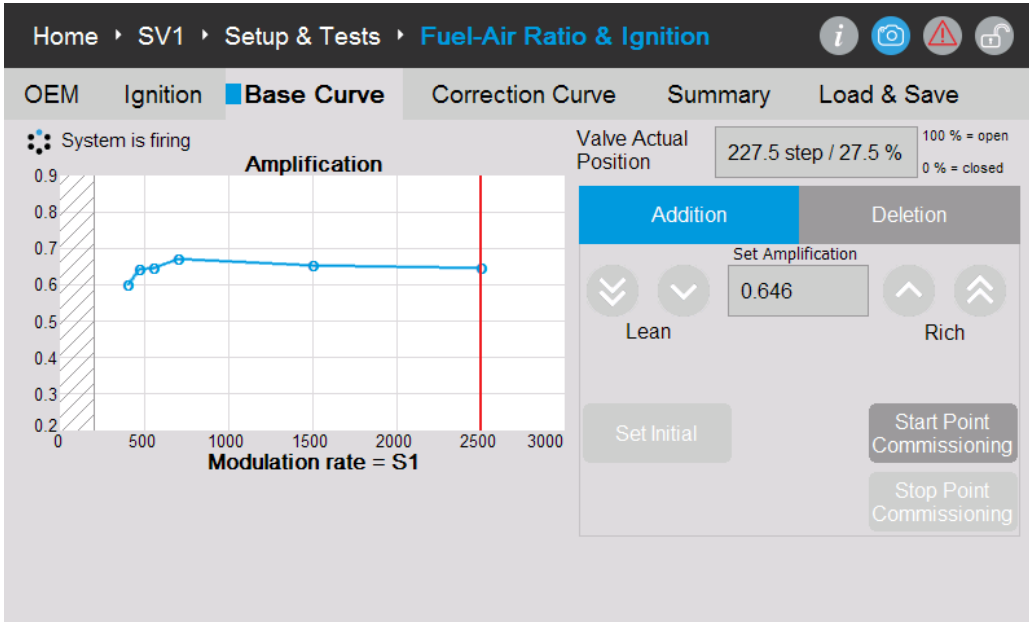
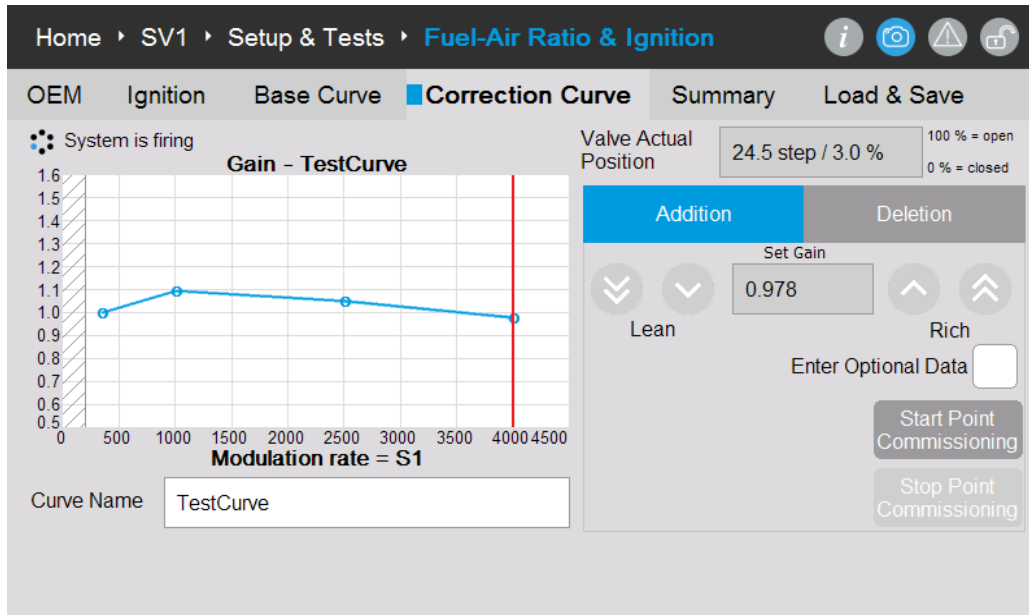

Fig. 65: Amplification factor control Base Curve.
Fig. 66: Gain factor Correction Curve after Set Max Completed.
- Fig. 65 and Fig. 66 show examples of an amplification factor control characteristic Base Curve and Correction Curve with 6 setpoints in the Base Curve and 4 points in the Correction Curve after finishing the setup procedure.